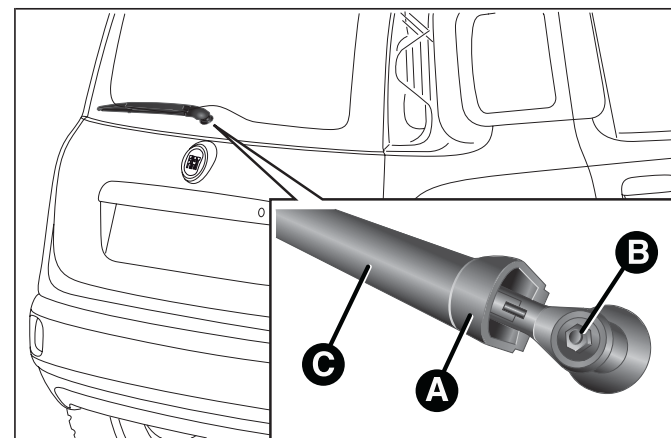

fig. 156
- ☐ raise cover A fig. 156, undo nut B and remove arm C;